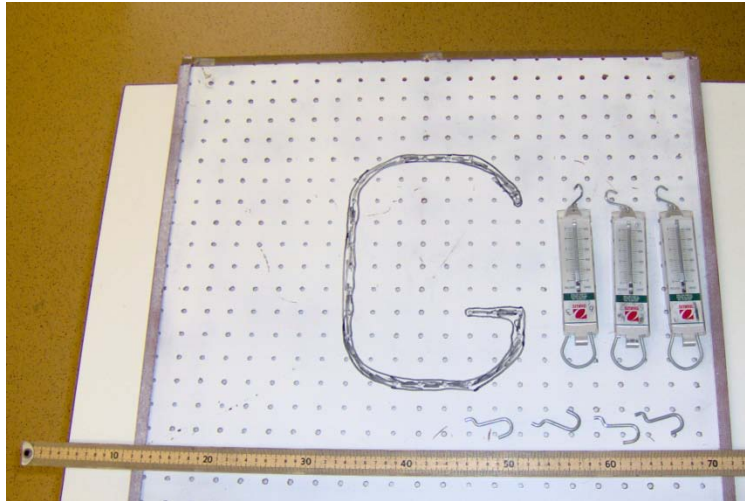

Figure 1
1. You will find a large white pegboard on the end of the lab table (the end away from the computer). There will also be 3 spring gauges, a washer (or ring), 3 pegboard hooks, and a pulley/clamp and meter stick. See Figure 1.